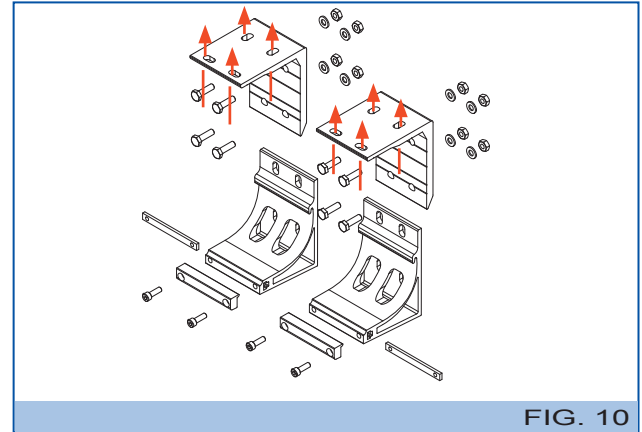

FIG. 10
- 15▪ Tighten the grub screw (I) to raise the elbow of the arm, and unscrew to lower it.
- 16▪Once the correct parallel position of the arms has been found, tighten the grub screw (F-Fig.10) in both arm supports.